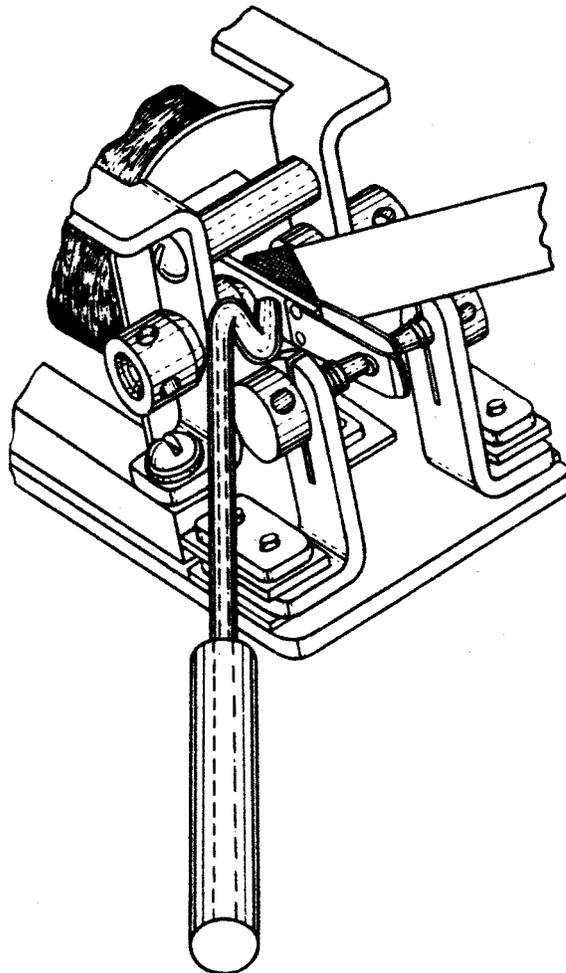

Figure 4 - Method of Cleaning Pole Pieces
4.06 Cleaning: Back off the pole-piece screws. Then wrap a layer of friction tape over the flattened end of an orange stick, with the stickier side of the tape toward the stick. Press, do not rub, the tape against the pole-piece screws. Then wipe the pole-piece screws, using a piece of clean, dry KS-2423 cloth wrapped around the orange stick. (See Figure 4.)